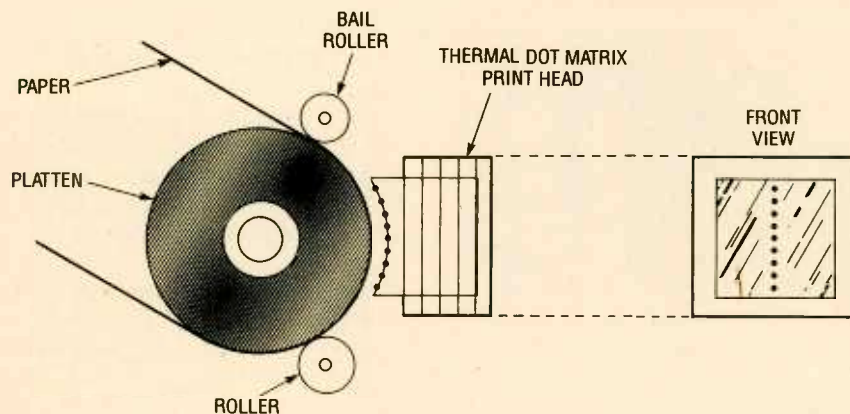

Fig. 3. A thermal dot-matrix print head must come in close contact with the paper to be effective. That's why it has a curved shape.
**Thermal Dot-Matrix.** Essentially, thermal dot-matrix printers work with the same control principles as impact dot-matrix printers. The major exception lies in the head itself. A thermal head uses an array of pin-point heating elements to form the necessary dot sequences on a special heat-sensitive paper (see Fig. 3). Controlling logic will activate the pin heaters which are so small that they can be heated and cooled again almost instantly. That allows very clear characters and graphics to be formed as the head moves across the paper. Thermal printers can be made very small, quiet, and light. That makes them popular in portable instrumentation.